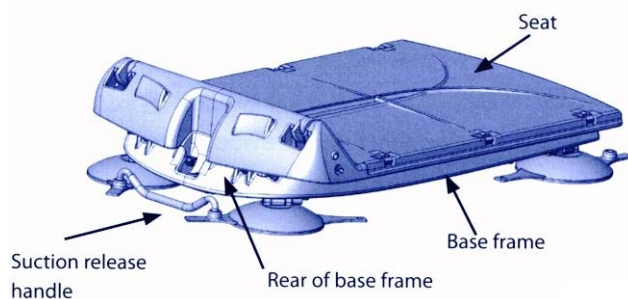
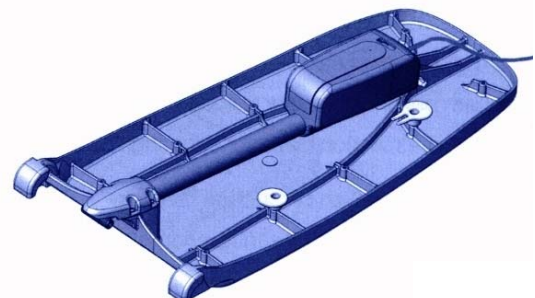

Figure 3
Figure 4
2. Place the base assembly (see Figure 3) into the center of the bathtub and far enough towards the rear of the tub to ensure there is clearance to recline the backrest (see Figure 4). The backrest should not contact tub or wall while reclined. Make sure the suction cups grip the bath tub.